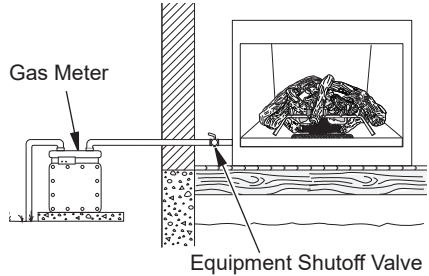

Figure 14 - Checking Gas Joints
3. Check all joints from gas meter to equipment shutoff valve (See Figure 14). Apply a noncorrosive leak detection fluid to gas joints. If bubbles form, there may be a leak.